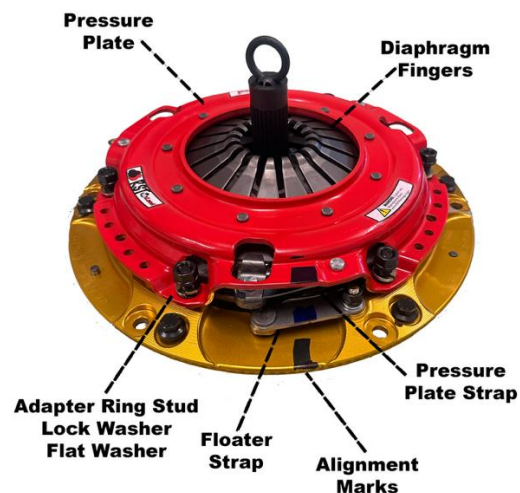

Figure 6
7. Install the pressure plate onto the studs on the adapter ring. Pay attention to the alignment of the drive straps over the floater and the drive straps on the pressure plate. They should sit over top of each other. All drive straps must be seen in the same raised opening on the side of the pressure plate. Alignment marks on the adapter ring and pressure plate must line up. Do not offset drive straps! See Figure 6.